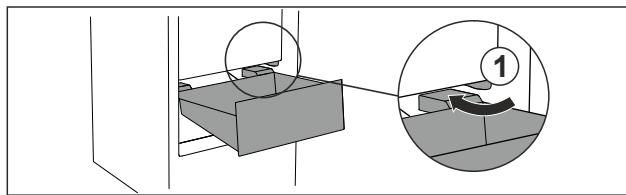

Fig. 69
- Guide drawer in at an angle around the stoppers Fig. 69 (1).